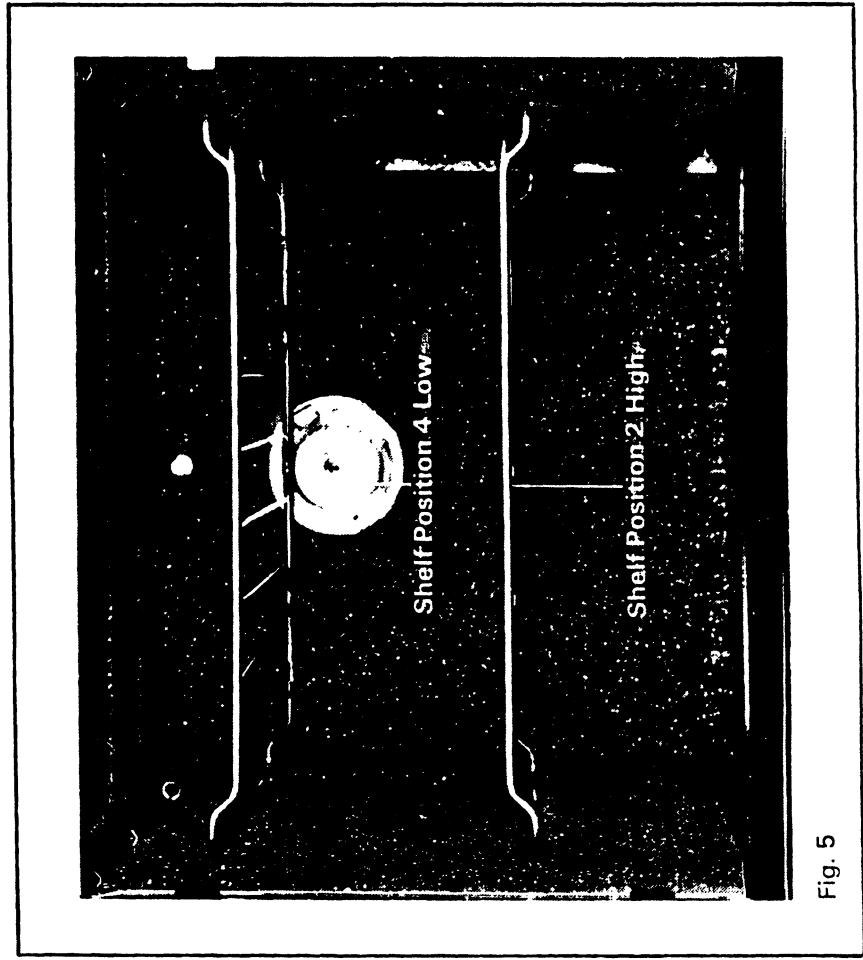

Fig. 5
2. Before switching the oven ON, arrange the shelves in position. Both shelves are reversible, providing a variety of positions when placed high or low in the runners (see fig. 5).